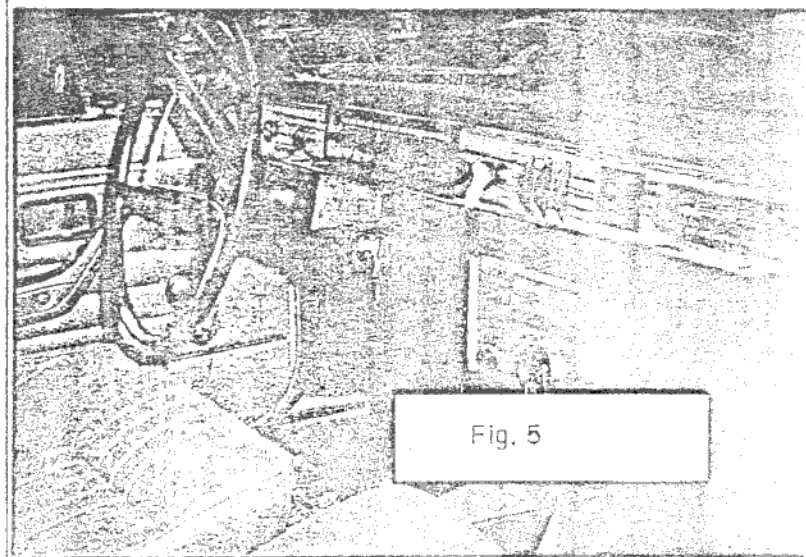

Fig. 5
- 3.3 Carefully cut out section of trim over radio opening as shown in Fig. 5.